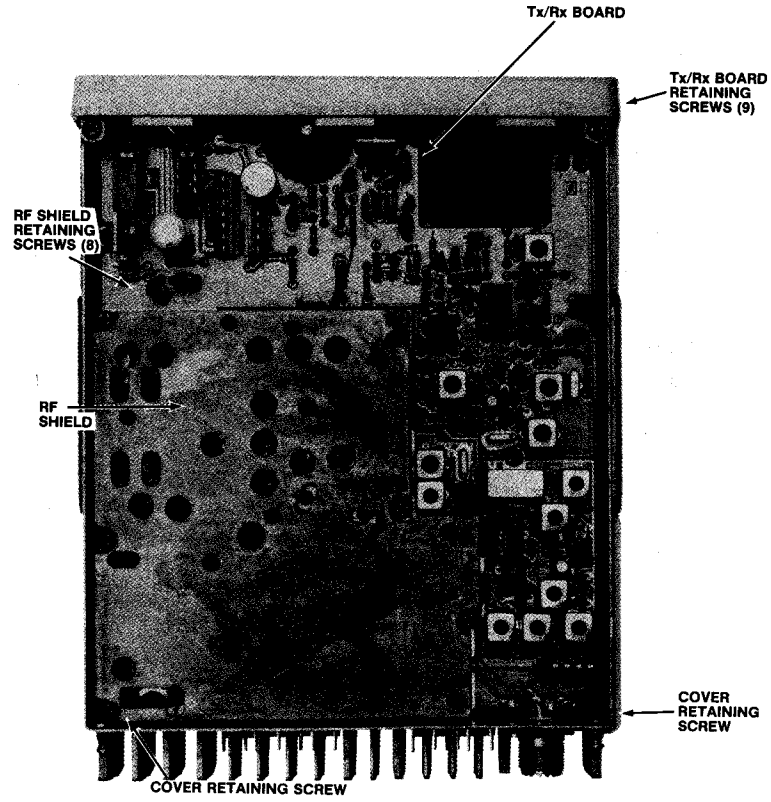

Figure 1 - Transmit/Receive Board Removal
2. Remove the four screws securing the front panel to the "H" frame and remove the front panel. See Figure 1. Also, remove screws securing display board (if present) to front panel.
3. Remove the eight screws securing the RF shield. See Figure 1.